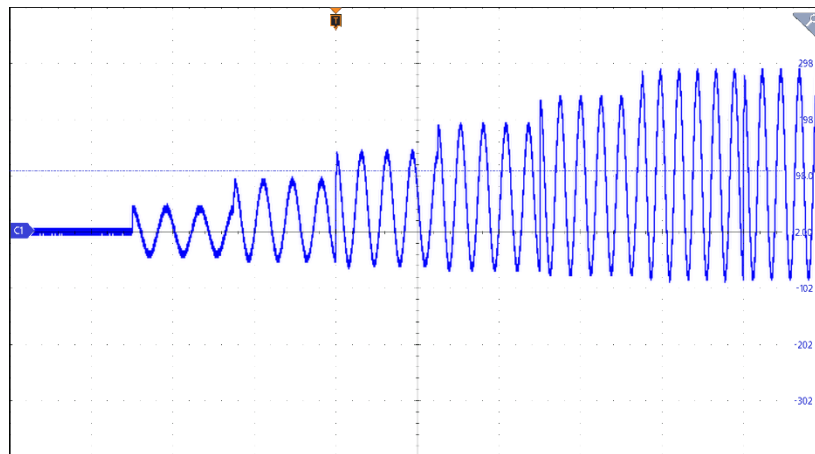

Figure 5-18 Step Mode Setting Page (Example Output Waveform for Phase 1)
3. After setting the parameters, tap the Home key , then press **TRIG. ON** to trigger the output. The output waveform is shown in Figure 5-18.